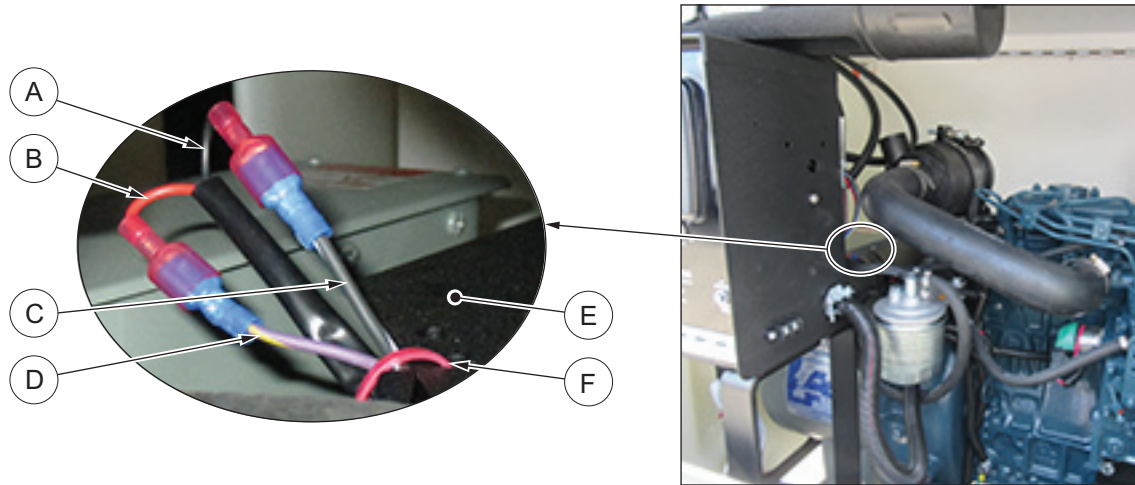

Figure 27 - Fuel Pump Wires and Securing Them
f. See Figure 27. Connect fuel pump wires and secure with cable-tie, as shown.